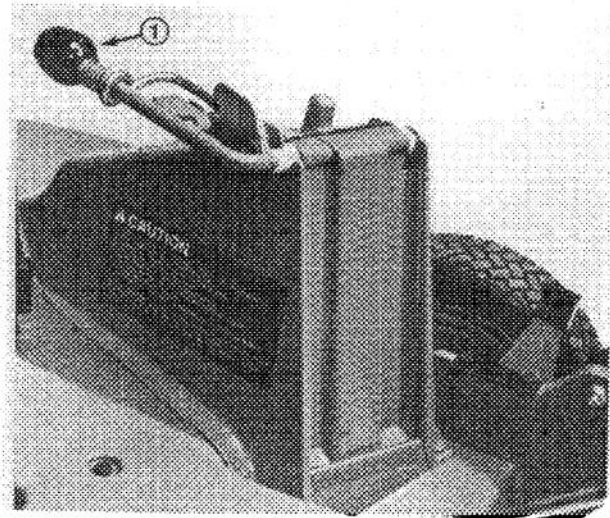

Figure 14
2. Assure chute door handle is fully forward and lockout lever is released into latch (Fig. 14). The chute door is now closed.